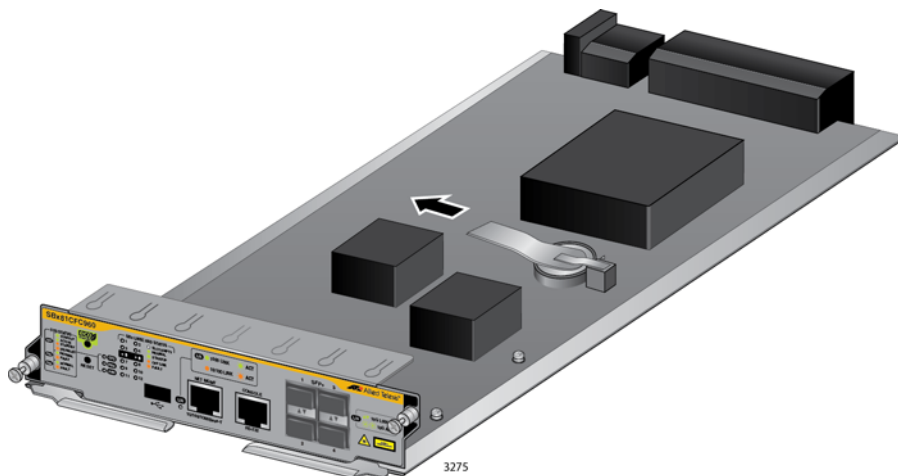

Figure 72. Removing the Battery Insulator
- Carefully remove the battery insulator tab on the controller card by sliding it out from between the battery and battery clip, as shown in Figure 72 on page 144.